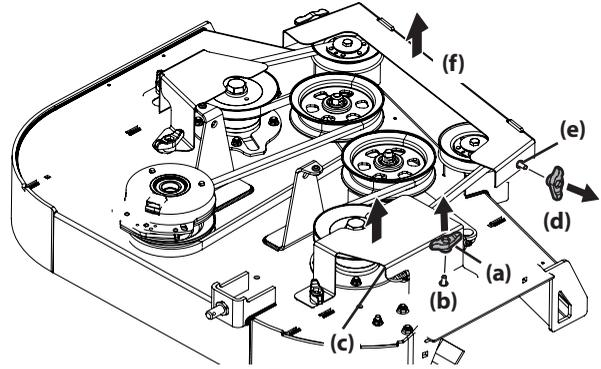

Figure 41
3. Remove the wing knobs (a) from the carriage screws (b) securing the side belt covers (c) to the deck and remove the side belt covers (Figure 41).
4. Remove the wing knobs (d) from the carriage screws (e) securing the front belt cover (f) to the deck and remove the front belt cover (Figure 41).